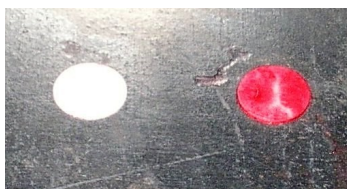

Figure 7
- ☐ Visually check cabinets for signs of moisture. Check shelf's water dots (see Figure 7). Water dots are placed on every shelf and door panel to indicate if moisture is present or has got inside the unit. The Dots are originally white in color but will turn red when water drops are absorbed.